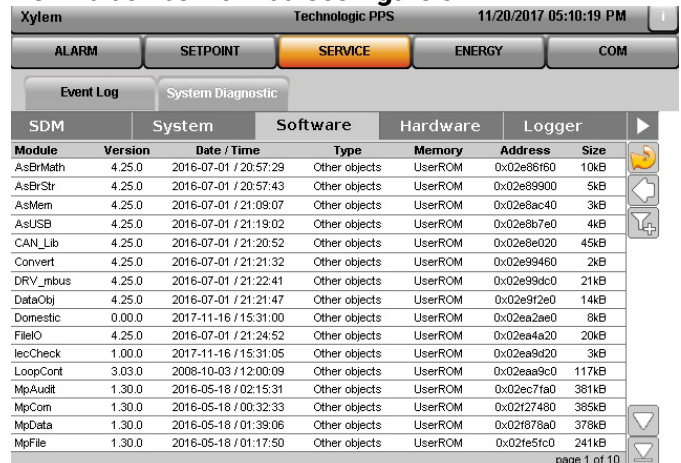

Figure 5.4.41-System Diagnostic\_Software
**[Software]** displays the modules found on the target system. The module list can be saved on the PC in .txt or .csv format. See **Figure 5.4.41**.